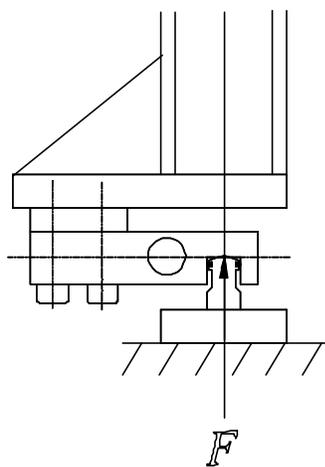
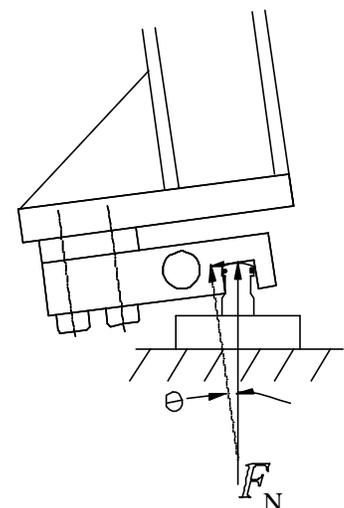

Figure 5-3a: Vertical Force
Figure 5-3b: Angular Force
Figure 5-3a and Figure 5-3b show how angular loading would affect a load cell anchored to the tank that is being weighed. Figure 5-3a shows an ideal installation with a perfectly vertical force. In Figure 5-3b, the force (F_N) that is normal to and sensed by the load cell would be less than the vertical force (F) applied to the load cell in the ideal installation. In this case, $F_N = F \cdot \text{Cosine } \theta$.